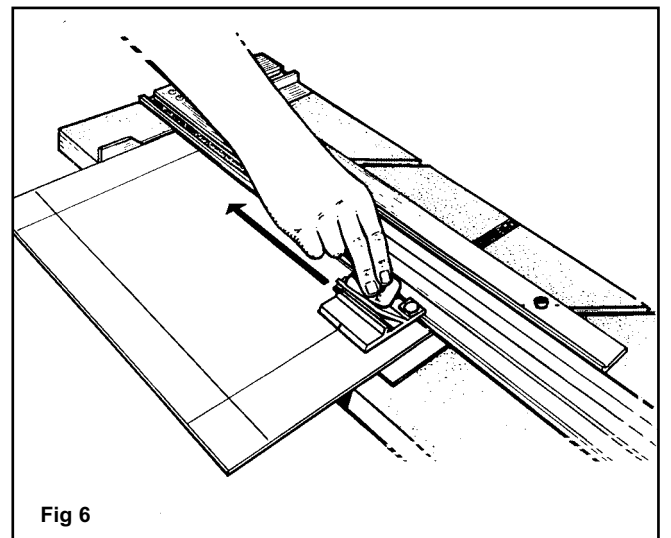

Fig 6
9. Release the Anti-Crawl Pin and pull the cutting head towards you until the Start and Stop Indicator line lines up with the line on the matboard closest to you. **DO NOT GO PAST THE LINE! Fig. 6**